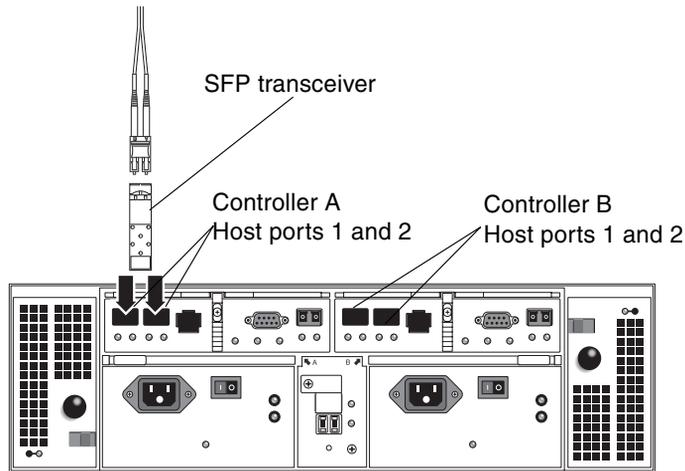

FIGURE 4-2 Host Connections
1. Locate the host ports (SFP transceivers) at the back of the controller module (FIGURE 4-2).
1. Locate the host ports at the back of the controller module (FIGURE 4-2).